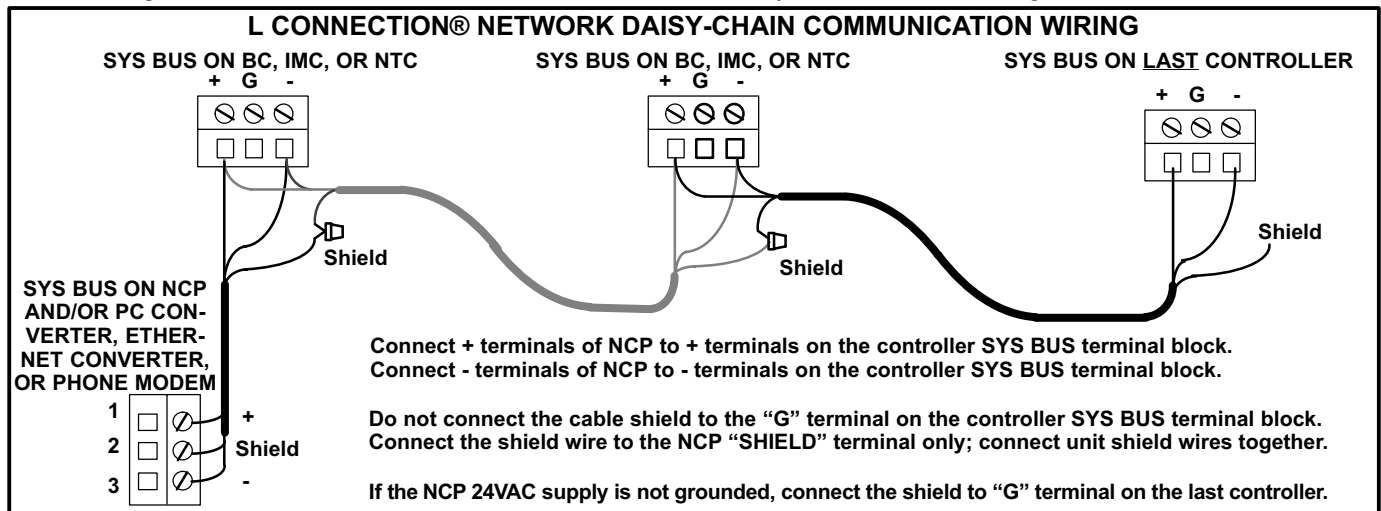

FIGURE 59
The Network Thermostat Control (NTC) is an L Connection direct digital controller used on units which are not equipped with an IMC. The Building Controller (BC) is used to control building functions such as lights and signs. Use L Connection specific network cable and daisy chain as shown in figure 59.